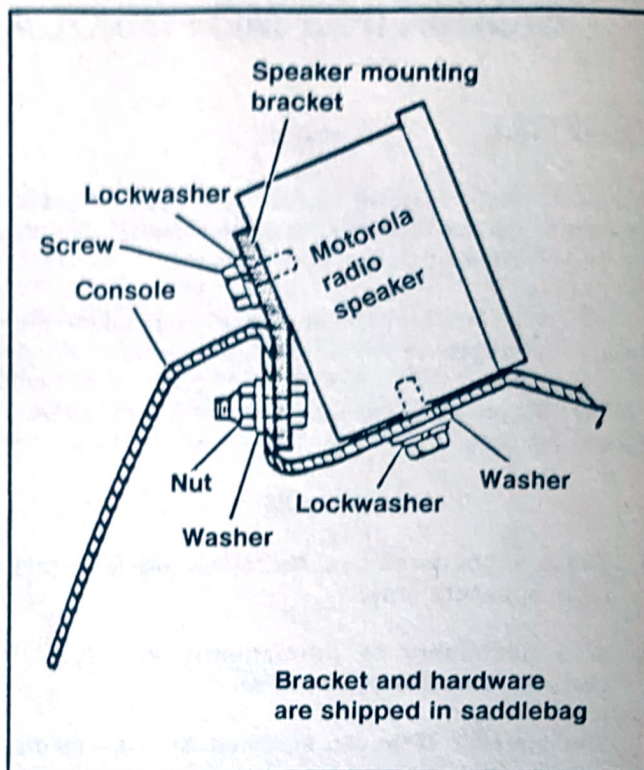

Figure 8-22. Bracket and Speaker Mounted to Console
1. See Figure 8-22. Mount the bracket to the console as shown. Then mount the Motorola radio speaker to the bracket and secure it to the console as shown.